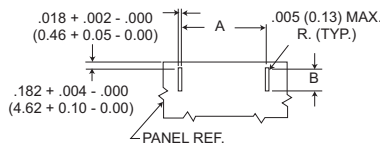

Figure 4 Edgeboard Mounting
(see Figure 4)
3. Figure 4 is for edge board mounting bracket or edgeboard clip assembly. The .184 ± .002 (2.67 ± 0.05) dimension locates the MD socket insulator flush with the end of the board.